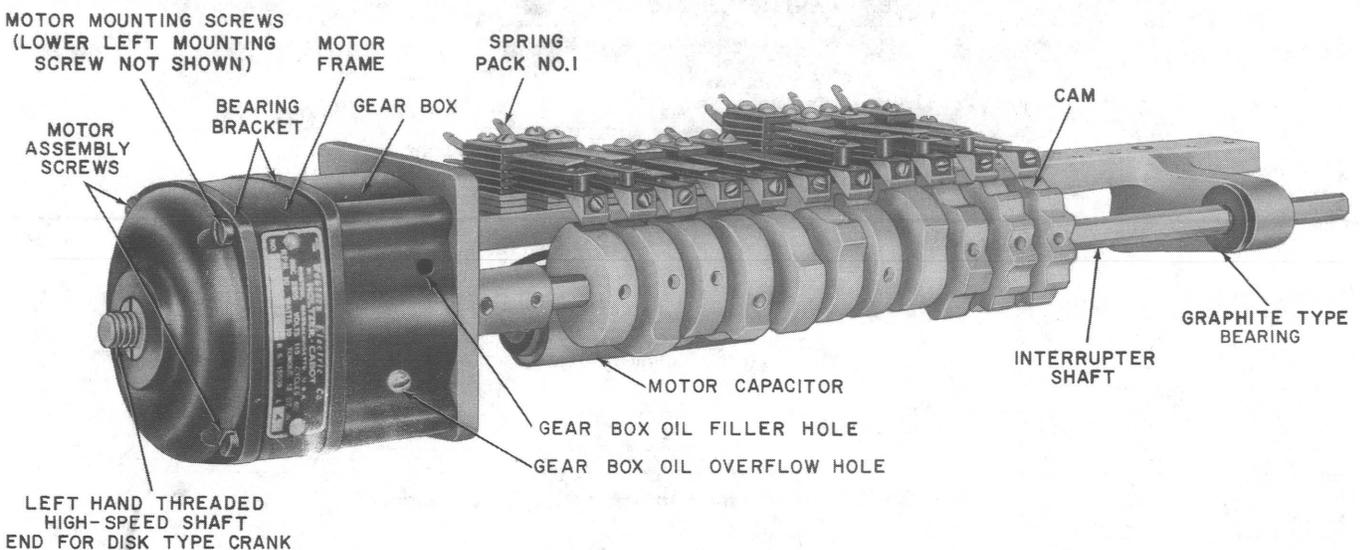
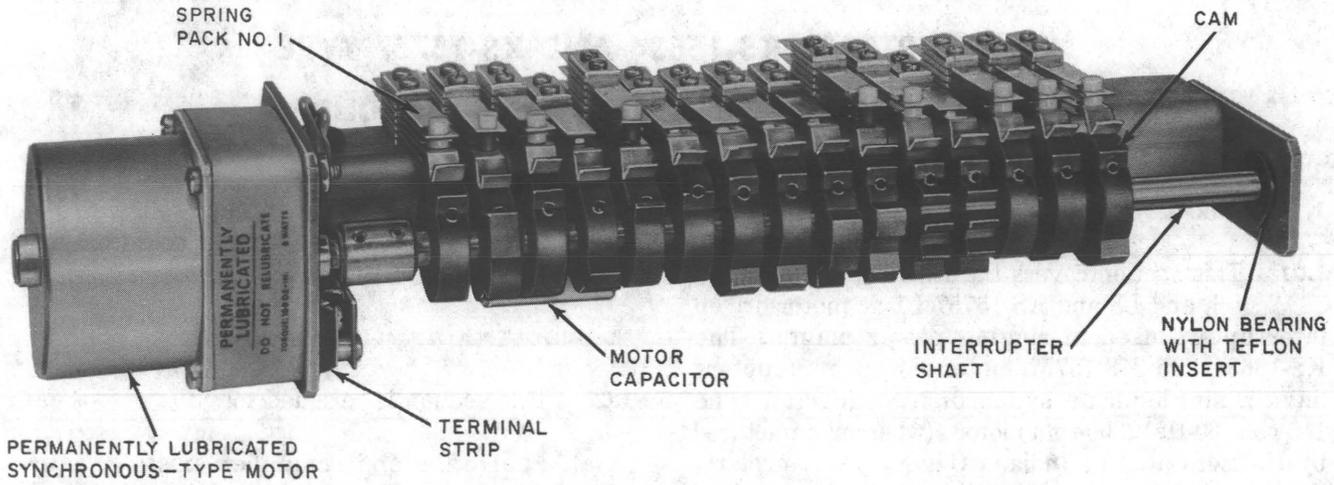
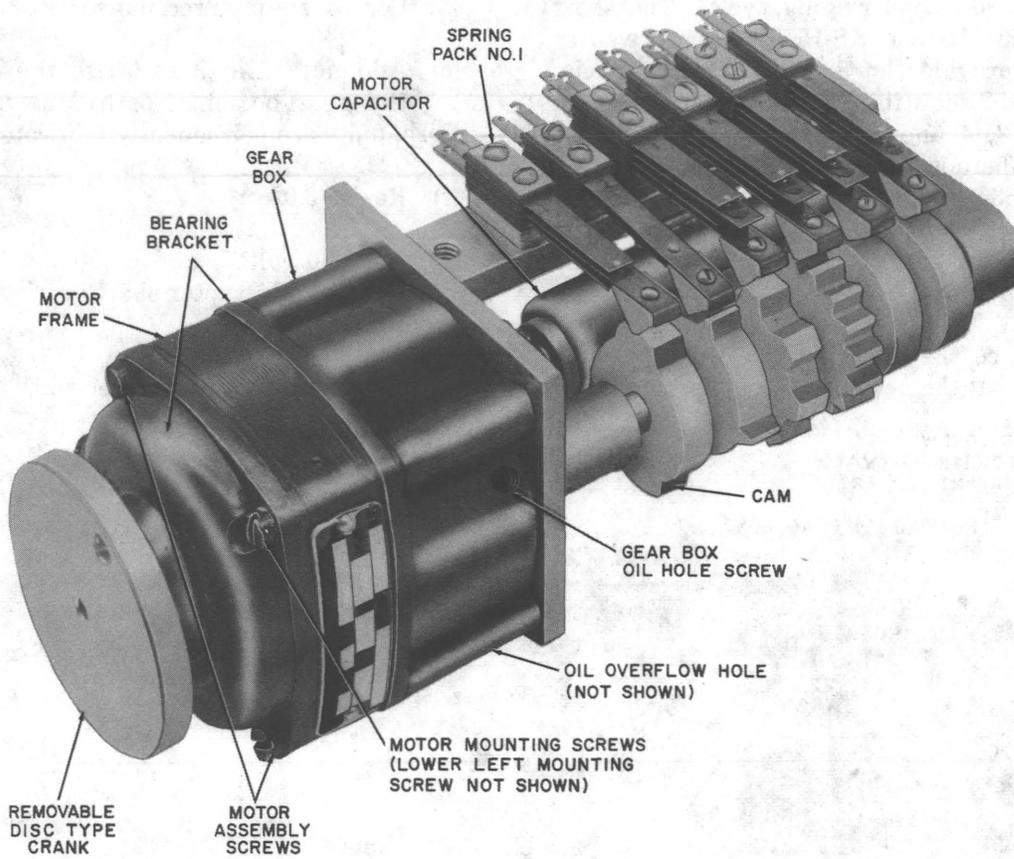

Fig. 1—KS-15634, List 1 Interrupter (Holtzer-Cabot)
Fig. 2—KS-15634, List 4 Interrupter (North American Philips Corp)
Fig. 3—KS-15757, List 1 Interrupter (Holtzer-Cabot)
1.01 This section covers the KS-15634 L1 through L6, and L8 and KS-15757 L1 ac motor-driven interrupters used in ringing power plants. The KS-15634 and KS-15757 motor-driven interrupters have a single-phase synchronous capacitor-type 115-volt, 60-Hz, 1800-rpm motor (when manufactured by Holtzer-Cabot or Indiana General Inc., formerly the Borg Co.) or a 300-rpm motor (when manufactured by the North American Philips Corp. (formerly the A.W. Haydon Co.)) which drives an interrupter camshaft through a gear train enclosed in a gear box. The interrupter shaft of the KS-15634 L1, 2, 4, 5, 6, and 8 interrupters is driven at 10 rpm and provides a 6-second ringing cycle. The shaft of the KS-15634 L3 and KS-15757 L1 is driven at 7.5 rpm and provides an 8-second ringing cycle. Figures 1 and 2 show the KS-15634 L1 interrupters and Figures 3, 4 and 5 show the KS-15757 L1 interrupter. There is a redesigned version available of the KS-15634 and KS-15757 type interrupters manufactured by the North American Philips Corp. The list numbers are L1 through 6 and L8 for the KS-15634 and L1 for the KS-15757 type interrupters. The specifications for the new interrupters are the same as the old type with the exception that the new model has a permanently
- (a) Rearrange and renumber existing figures except for Fig. 1, which has been revised. Figures 2, 4, and 6 through 15 are new figures which include added North American Philips Corp. manufactured equipment.
- (g) Add 3.02(b)(15) and 3.02(c) to revise gear box and interrupter shaft bearing lubrication procedures.